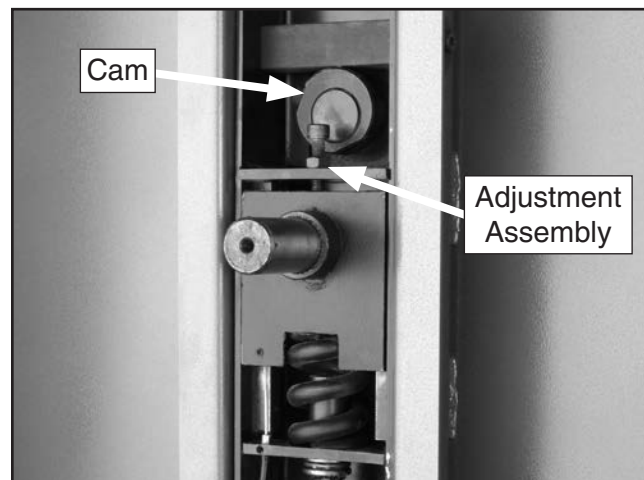

Figure 89. Example of tension adjustment assembly locations (top wheel removed for clarity).
- Apply a thin coat of lubricant to the tension adjustment assembly and tension lever cam (see **Figure 89**).